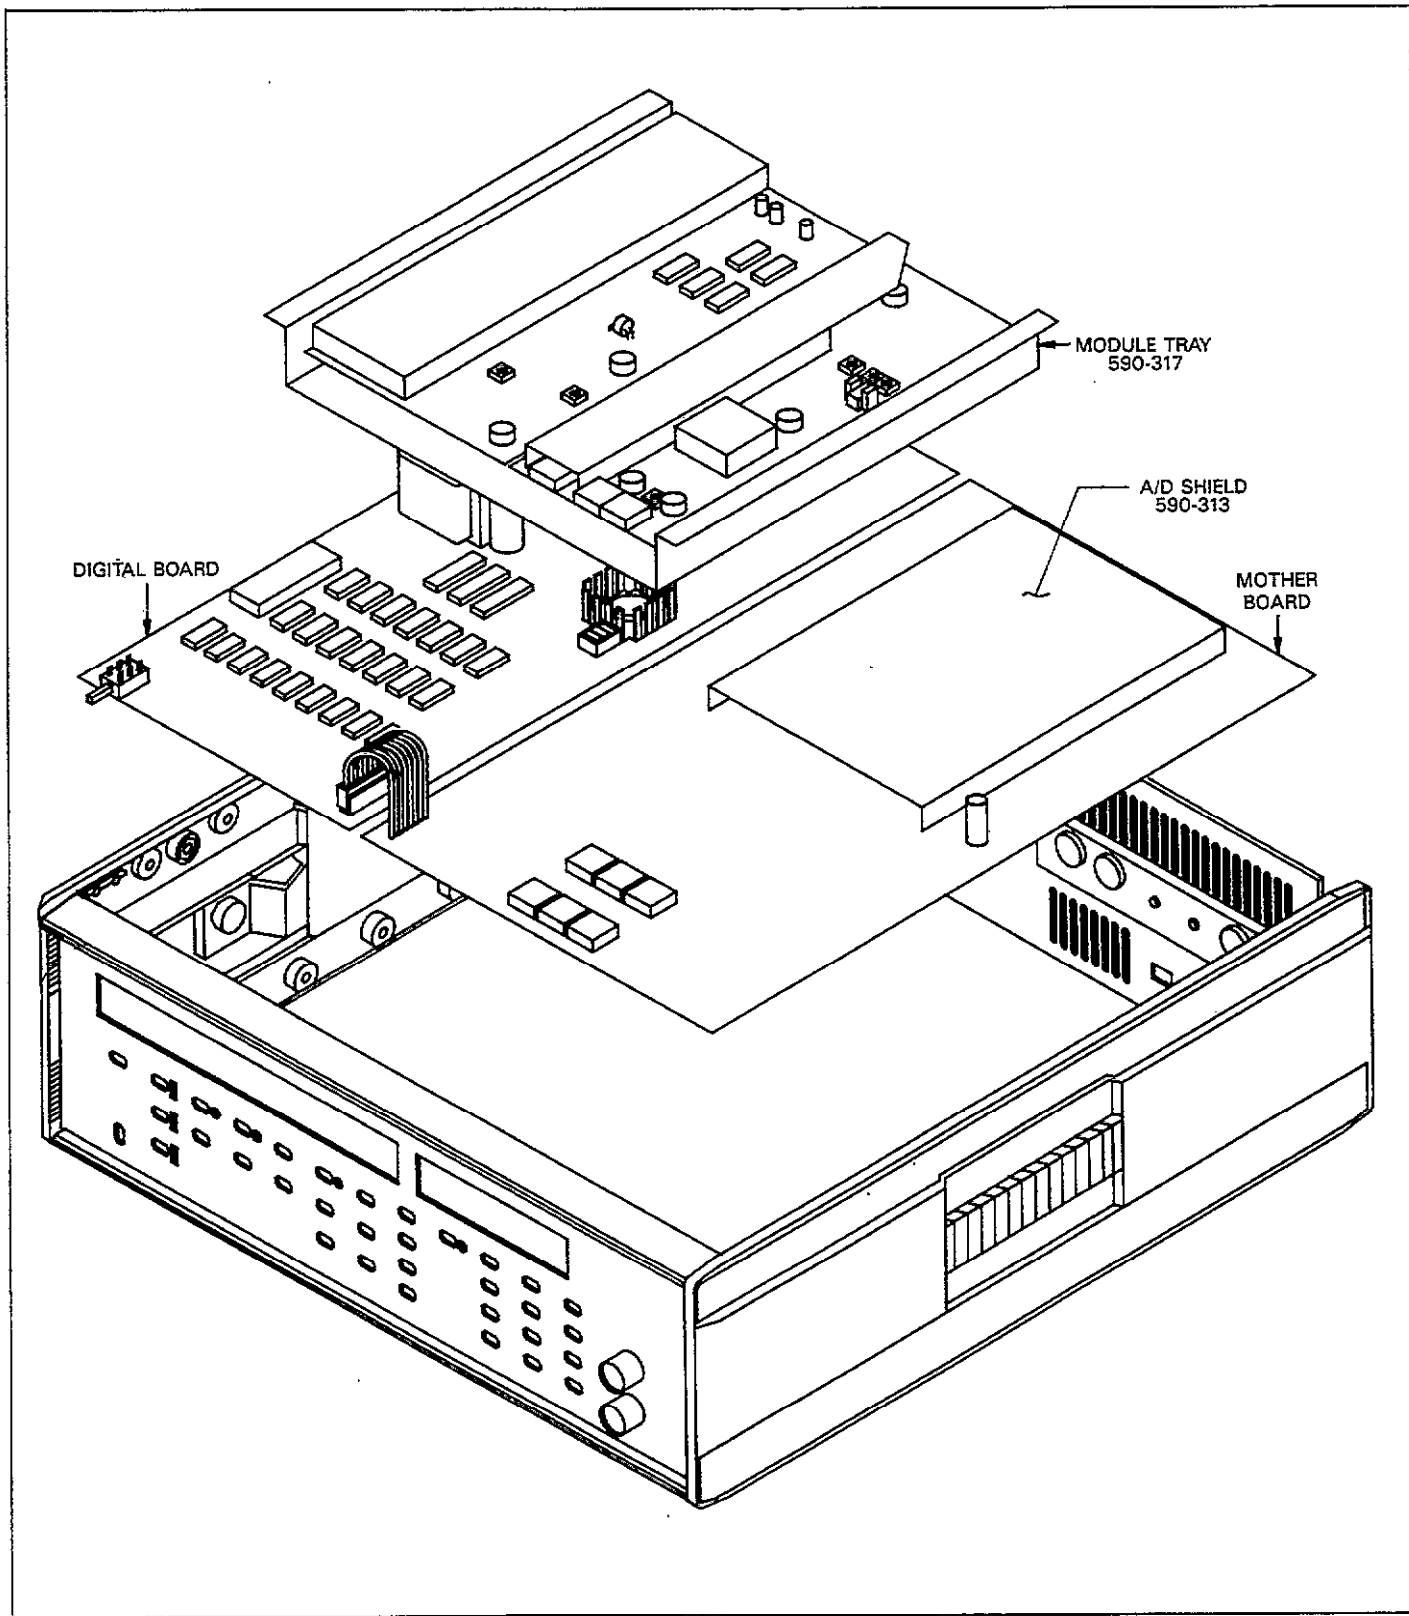
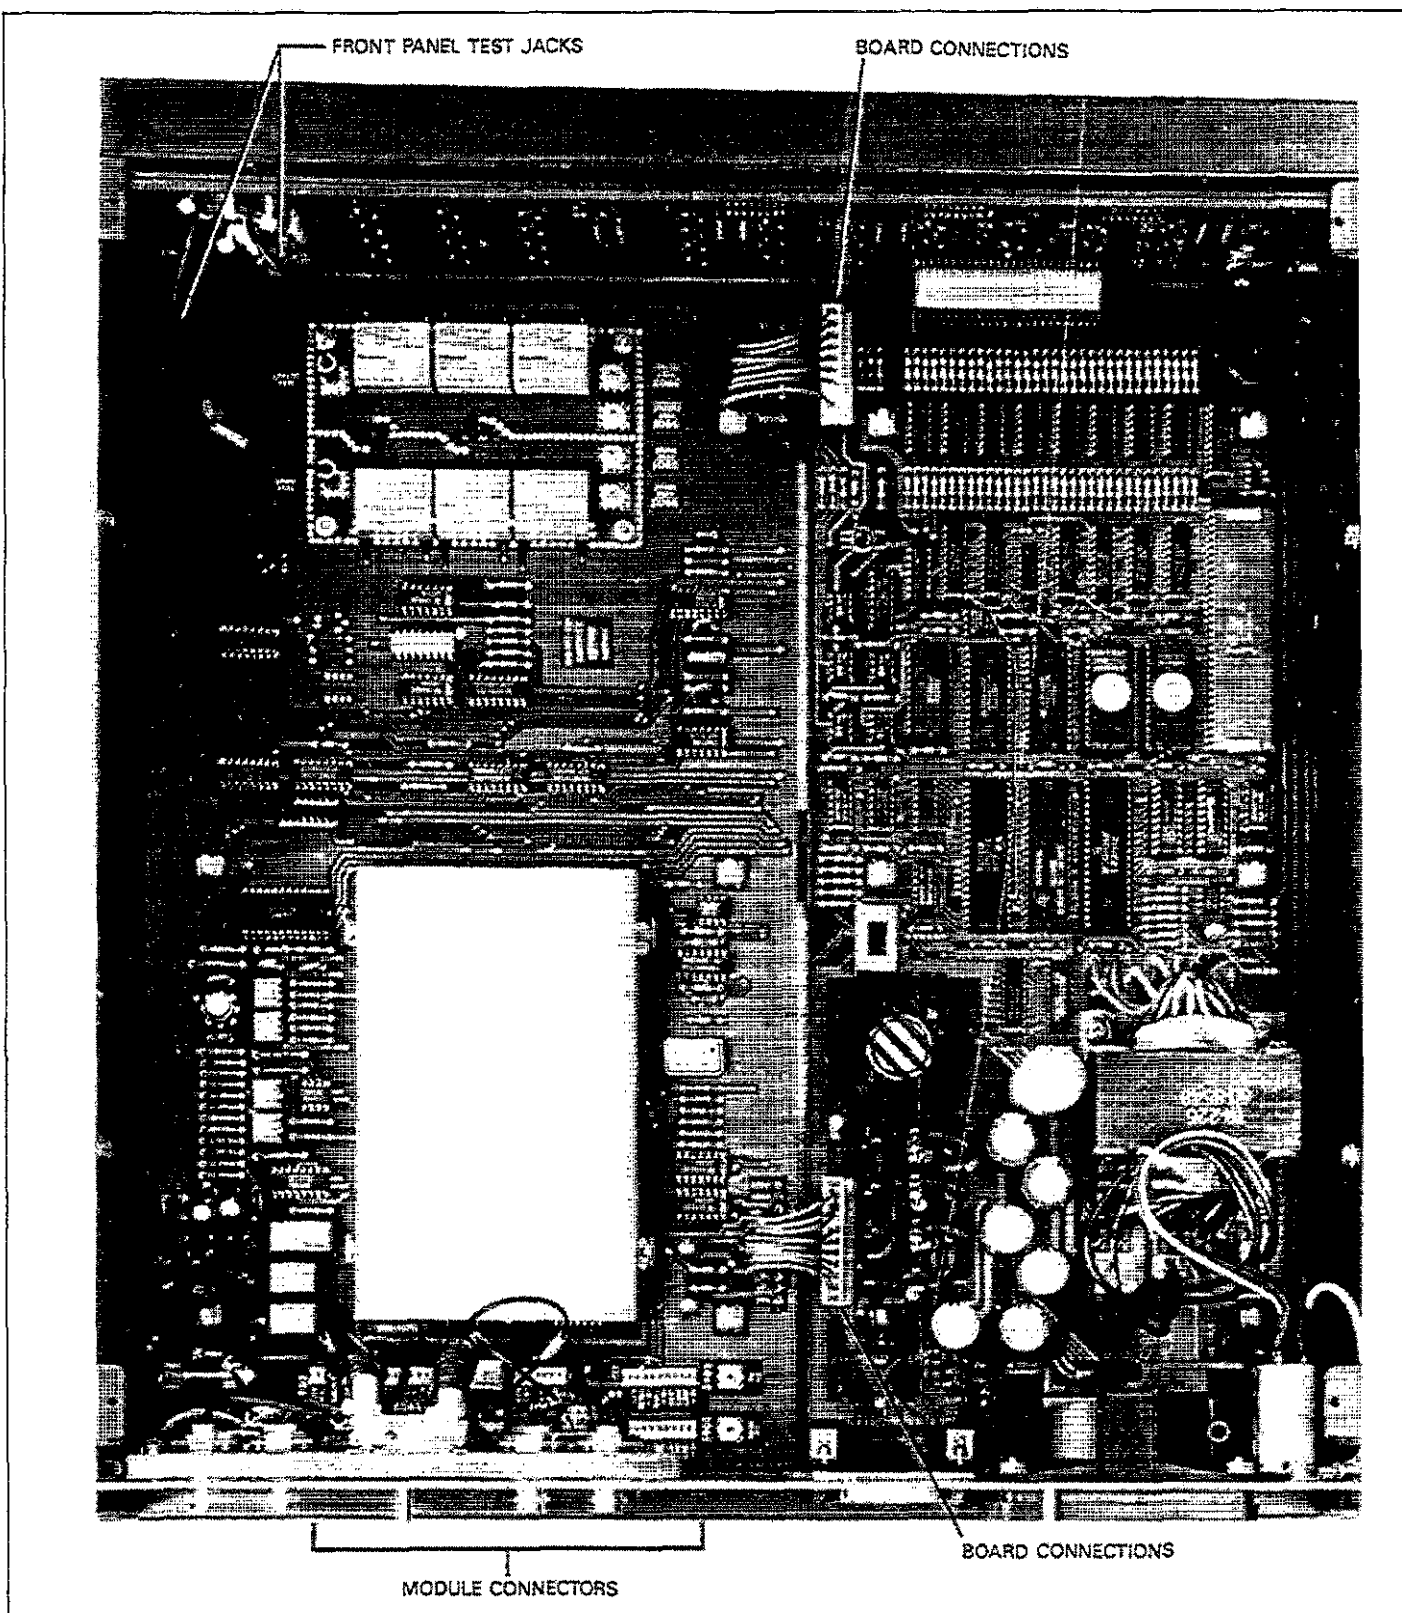

Figure 7-10. Circuit Board Removal and Replacement
Figure 7-11. Cable Connections
Removal and replacement of the modules and circuit boards is covered below. These items should be removed in the order shown and replaced in reverse order. General module and circuit board configuration is shown in Figure 7-10, while cable connections are shown in Figure 7-11.
2. Make sure the all connectors are properly replaced, using Figure 7-11 as a guide. In particular check to see that module connections are not interchanged (5901, 100kHz and 5902, 1MHz connections are marked on the mother board.